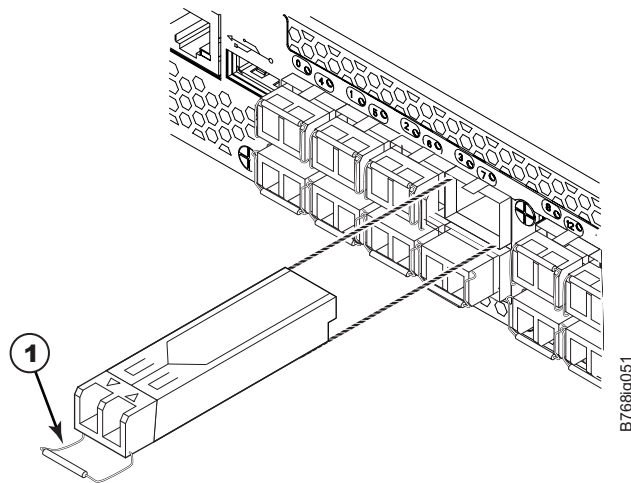

Figure 41. Removing and replacing an SFP+ optical transceiver
3. Using the hooked end of the tool, pull the bail (wire handle) **1** away from its pivot point and out, sliding the transceiver out of the port (Figure 41).